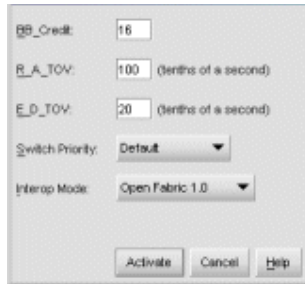

Figure 20: Configure Fabric Parameters dialog box
2. At the Hardware View, choose **Operating Parameters > Fabric Parameters** from the Element Manager window. The Configure Fabric Parameters dialog box displays (Figure 20).